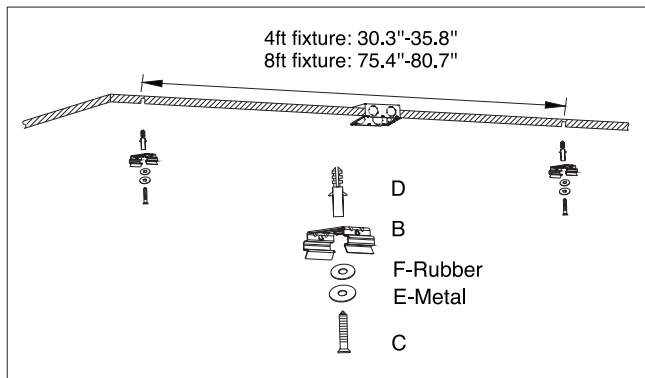

Figure 1
- Locate and drill holes, install clips on the ceiling surface using the accessories listed in the parts list (Figure 1).